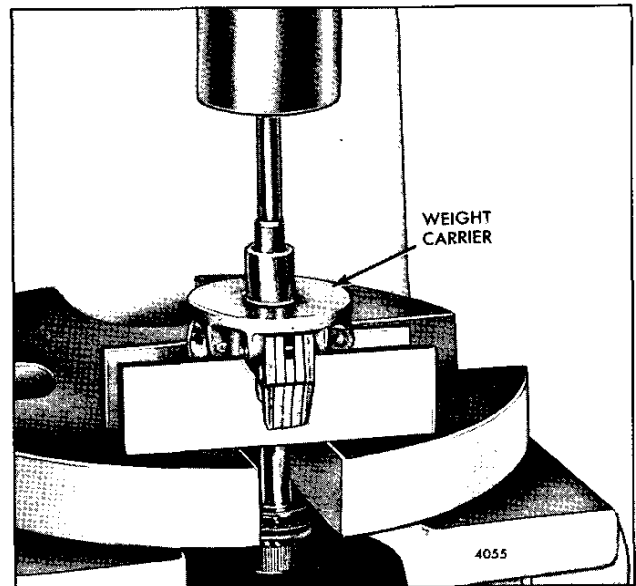

Fig. 11 – Removing Shaft from Weight Carrier
2. Press the shaft from the governor weight carrier (Fig. 11).